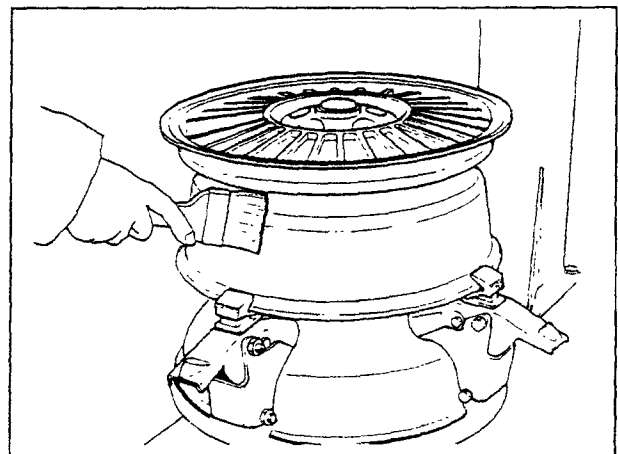

Fig.15
A. Lubricate the entire rim surface (Fig.15).